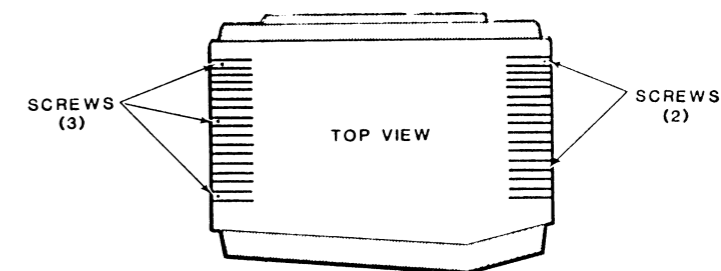

Figure 1. Retaining Screws on Top Cover of Display Unit
- 2) USING THE NARROW SHANK PHILLIPS SCREWDRIVER, UNSCREW THE FIVE TOP COVER RETAINING SCREWS (SEE FIGURE 1) FROM THE DISPLAY UNIT. RETAINERS MOUNTED ON THE SCREWS PREVENT THEM FROM COMING OUT OF THE TOP COVER.